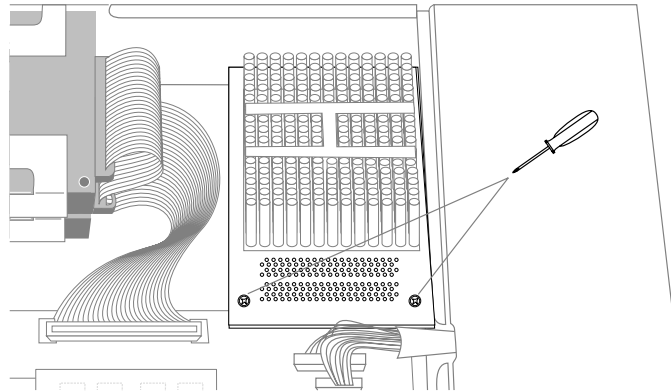

Figure 8-21 Removing the Two Screws From the CPU Module
6. Using a Phillips screwdriver, remove the two screws that connect the CPU module to the system board, as shown in Figure 8-21.